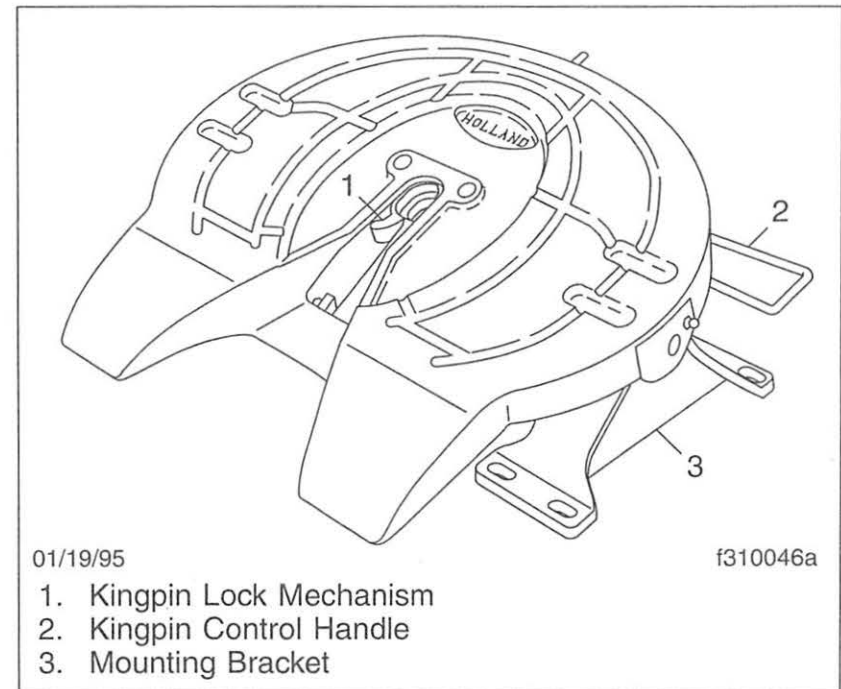

Fig. 10.1, Holland Fifth Wheel
The 2535 sliding fifth wheel models incorporate a Model 3500 fifth wheel (**Fig. 10.1**), equipped with either an air-operated release slide, or a manual release slide. Sliding fifth wheel assemblies are mounted on a baseplate which permits forward and rear movement along notched rails. Plungers are meshed into teeth on the baseplate to lock the sliding mechanism. Disengagement of the sliding member is accomplished when the plungers are withdrawn (manually or air-operated), releasing the fifth wheel assembly so that it can be positioned for optimum weight distribution over the tractor axles.
6. Release the kingpin locking mechanism by pulling the kingpin lock control handle (**Fig. 10.1**) to the outward position.